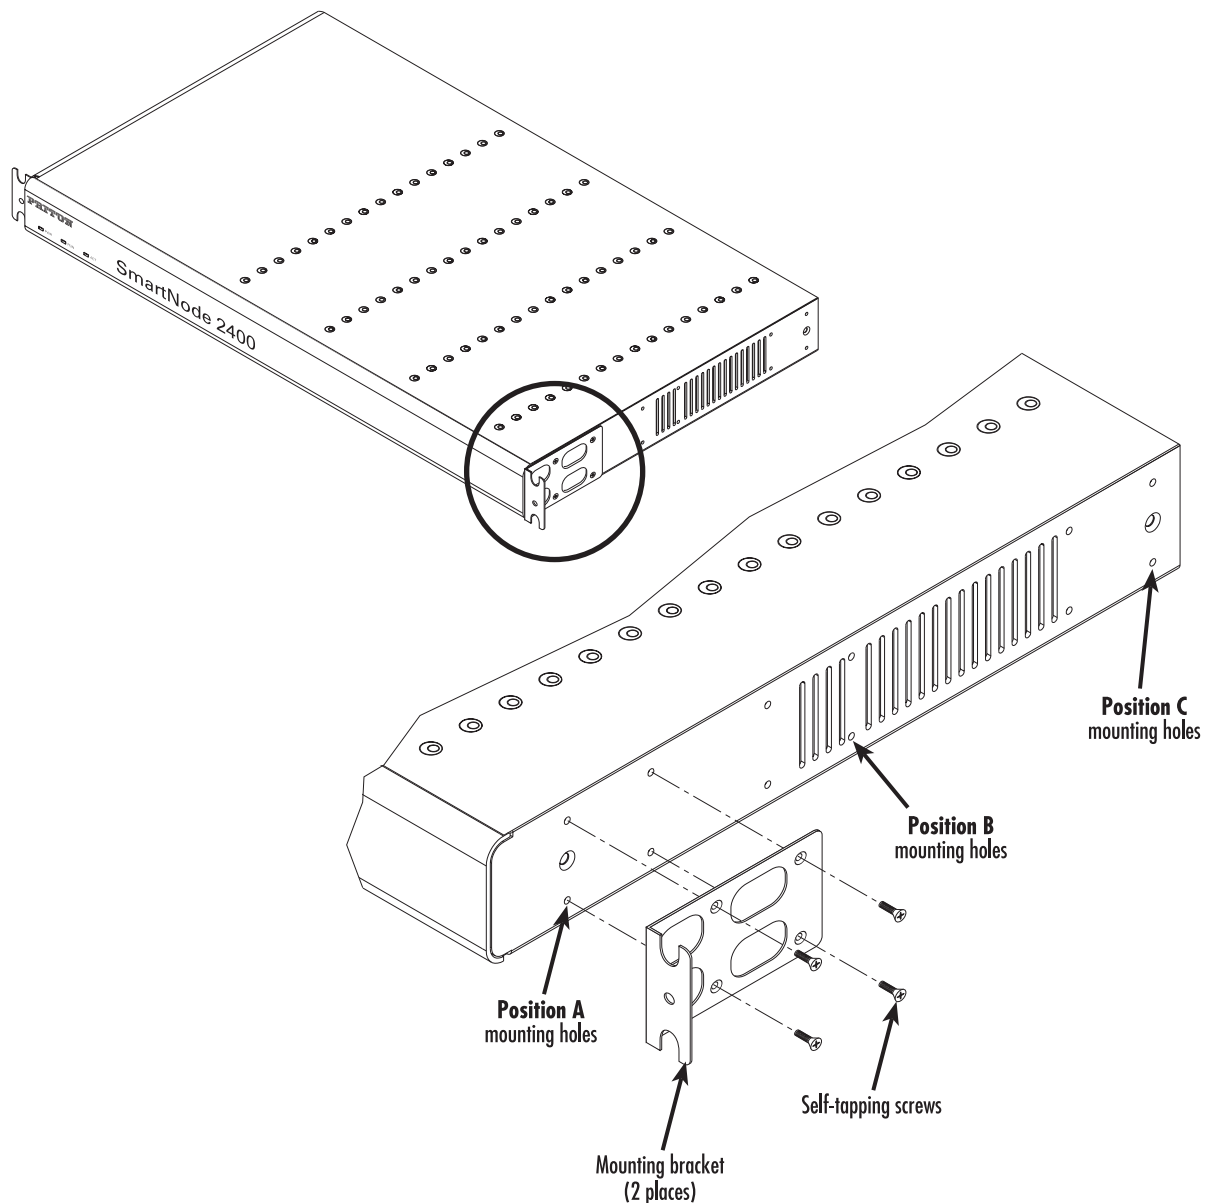

Figure 68. SmartNode 2400 rack mounting bracket location holes
1. Locate the two angled mounting brackets included in the installation kit pack. The bracket (see figure 68) is designed so you can have the 1.5 cm flange facing to the front or to the rear. There are four holes for countersunk screws on the long side of the bracket.
2. Attach a bracket to each side of the SmartNode 2400 with the four self-tapping screws provided. There are three mounting positions for the brackets (positions A, B, and C as shown in figure 68 on page 111), so choose the one that best suits your requirements.